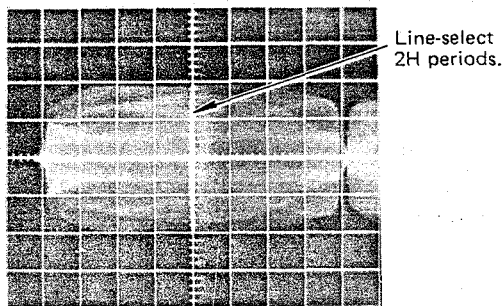

Fig. 6-4-6
- Use the delayed sweep mode to line-select 2H periods from the center of the waveform. (see Fig. 6-4-6)